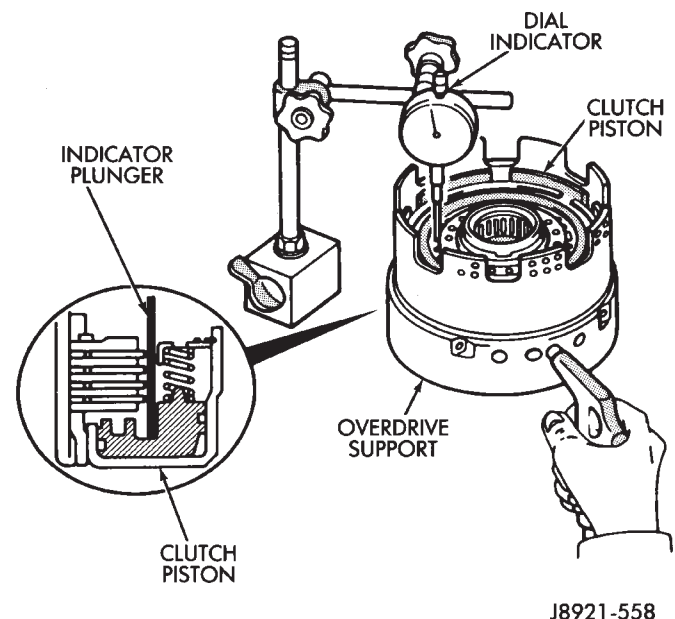

Fig. 4 Checking Direct Clutch Piston Stroke Length
(5) Mount dial indicator on clutch and position indicator plunger on clutch piston (Fig. 4).
(6) Apply 57-114 psi air pressure through feed hole in overdrive support and note piston stroke length (Fig. 4). Check stroke at least twice.
(7) Piston stroke length should be 1.37 mm - 1.67 mm (0.054 - 0.065 in.). If stroke length is incorrect, either the clutch pack retainer or clutch discs will have to be replaced.